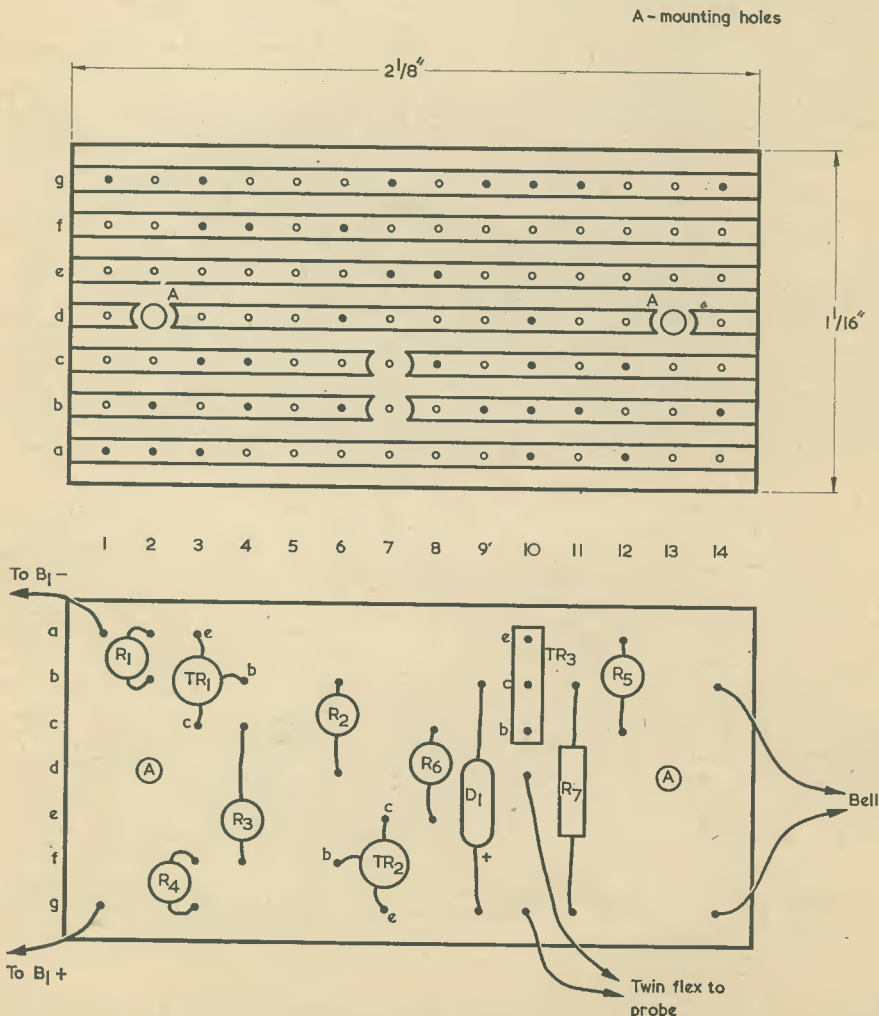

Fig. 2. The copper and component sides of the Veroboard on which the components are assembled
- Veroboard panel, 0.15in. matrix, $2\frac{1}{8}$ x $1\frac{1}{2}$ in. (see Fig. 2)
The major part of the electronic circuitry is wired up on a small piece of Veroboard panel with 0.15in. hole spacing, as shown in Fig. 2. This panel is secured directly to a block of wood which also holds the bell and battery, as shown in the photograph. The size of the board will depend upon the
Before mounting the components to the Veroboard, cut the copper strips at the points indicated in the upper view of Fig. 2. Also, drill two mounting holes to take thin wood screws at the points marked 'A'. After the components have been fitted to the board and soldered into circuit, the board assembly is checked.